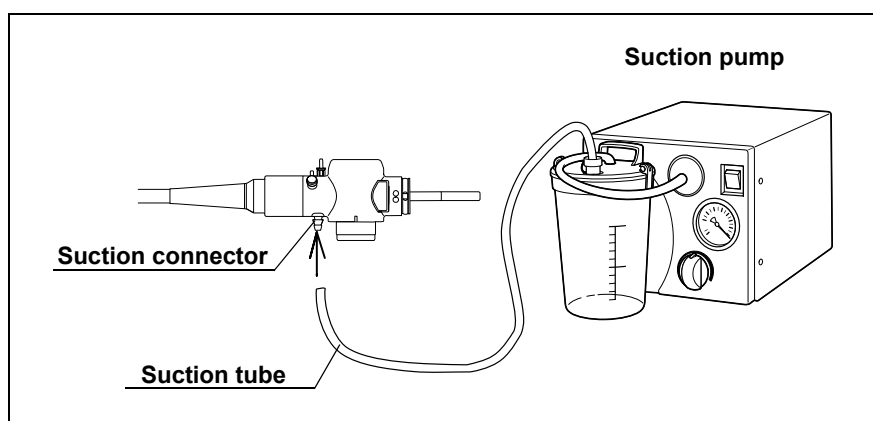

Figure 3.18
8. Connect the suction tube from the suction pump to the suction connector on the endoscope connector (see Figure 3.18).